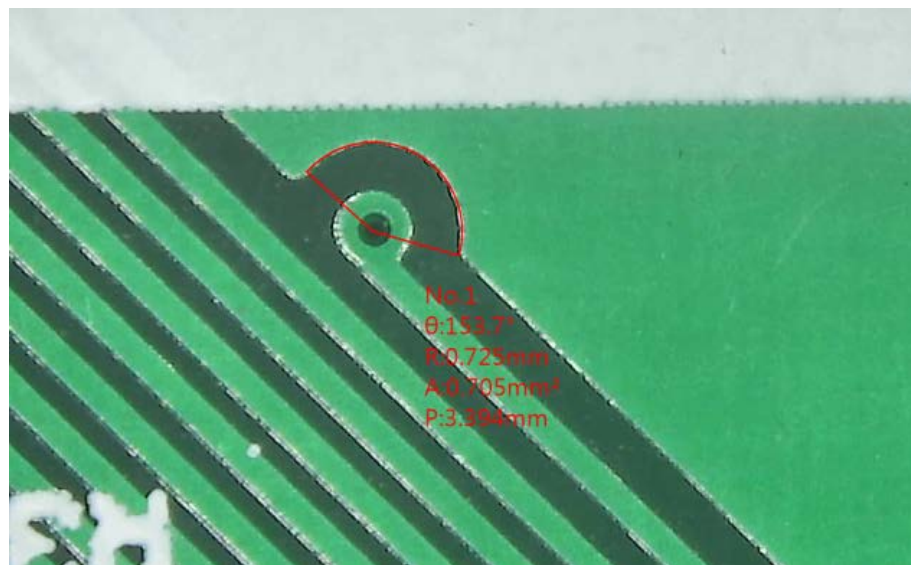

Fig.5-8 Arc area
- (4) Arc: Apply  to measure Arc , see FIG. 5-8. 1st click at the edge of measuring object and then 2nd click on the other side, continue moving mouse till arc area match the measuring object, finalize 3rd click. Below measuring data show Int. angle is  $153.7^\circ$ , radius is  $R=0.725\text{mm}$ , area is  $A=0.705\text{mm}^2$ , perimeter is  $P=3.394\text{mm}$ .